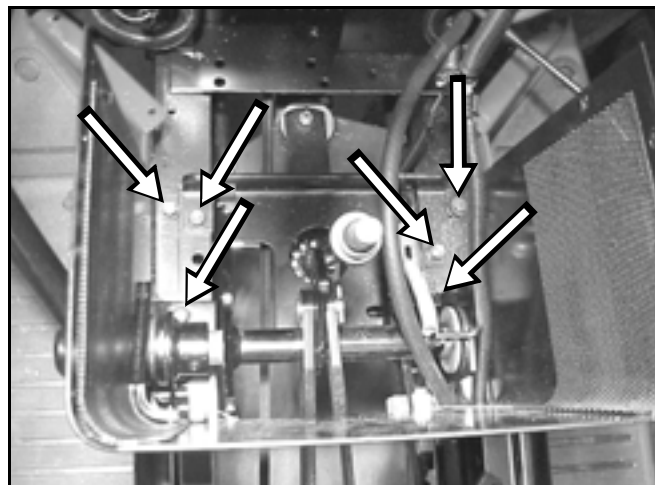

Figure 65
5. Remove the six bolts, three located on the right and three on the left side, inside of the hood stand (Figure 65).